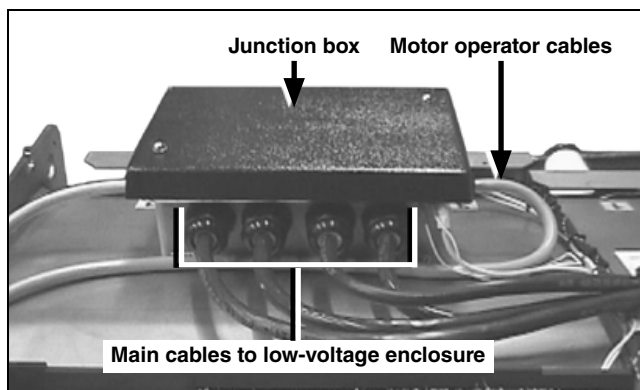

Figure 58. The junction box wiring.
- STEP 1.** Uncoil the main cables that will be routed to the low-voltage enclosure. See Figure 58. These cables have low-voltage connectors on their ends.